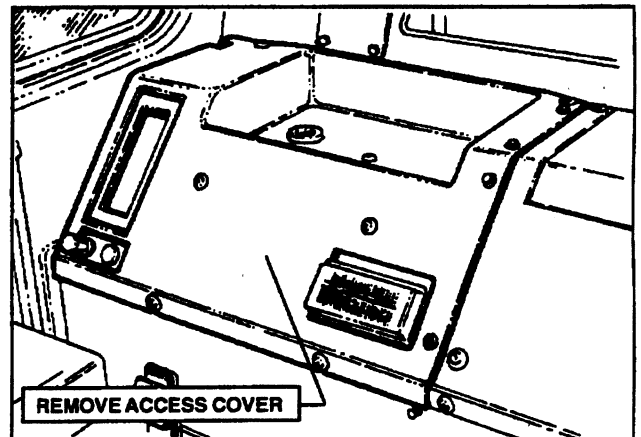

FIGURE 6.11A
6. Remove mechatronic controller access cover. See Figure 6.11A.